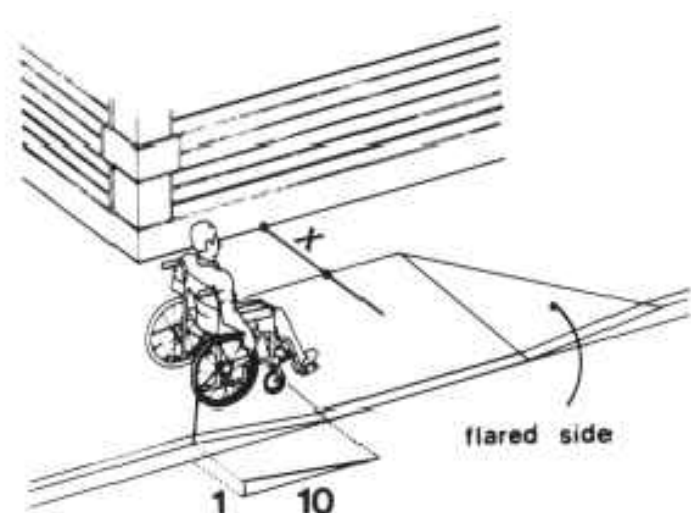

Figure 12(a)
4.7.5 SIDES OF CURB RAMPS. If a curb ramp is located where pedestrians must walk across the ramp, or where it is not protected by handrails or guardrails, then it shall have flared sides; the maximum slope of the flare shall be 1:10 (see Fig. 12(a)). Curb ramps with returned curbs may be used where pedestrians would not normally walk across the ramp (see Fig. 12(b)).